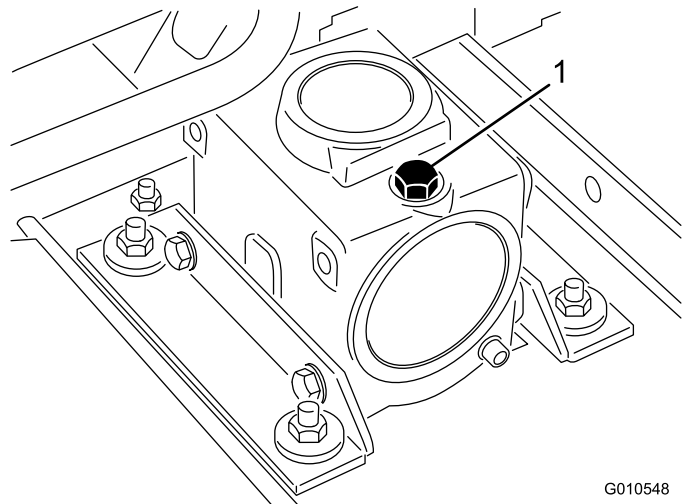

Figure 16
2. Remove the dipstick/fill plug from the top of the gearbox (Figure 16) and ensure that the lubricant is between the marks on the dipstick. If the lubricant level is low, add enough lubricant until the level is between the marks.